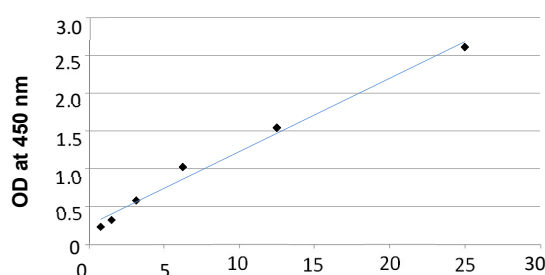
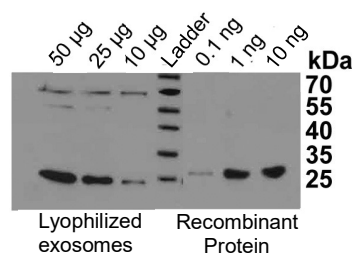

Figure 4. CD9 titration of plasma healthy donor exosome standards.
Figure 5. CD9 marker detection by Western Blotting on lyophilized exosomes from human plasma and the recombinant CD9 protein.
- 10. Sensitivity:** The sensitivity of the ExoGenie was compared to Western blot. The data reported in Figure 4 and 5 demonstrate that the sensitivity of the ExoGenie is higher than that of Western blotting. Figure 5 shows that 10 µg of lyophilized exosomes is equivalent to 0.1 ng of recombinant exosomal protein (CD9). Since the standard curve's lower concentration is 0.39 µg of lyophilized exosomes (Figure 4), the sensitivity of our test is around 39 µg of protein equivalent.